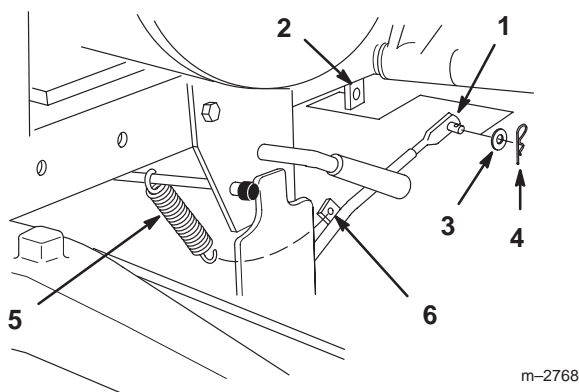

Figure 11
9. Place rear of lift rod into tractor lift arm and secure with washer and hairpin cotter (Fig. 11).
10. Hook lift assist spring between snowthrower frame rod and tab on lift rod (Fig. 11).